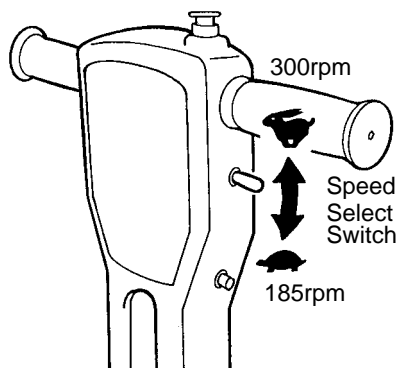

FIG. 3
2. For Dual Speed Models select the desired motor speed. Position switch downward (185rpm) for scrubbing/stripping OR position switch upward (300rpm) for spray buffing (Figure 3).